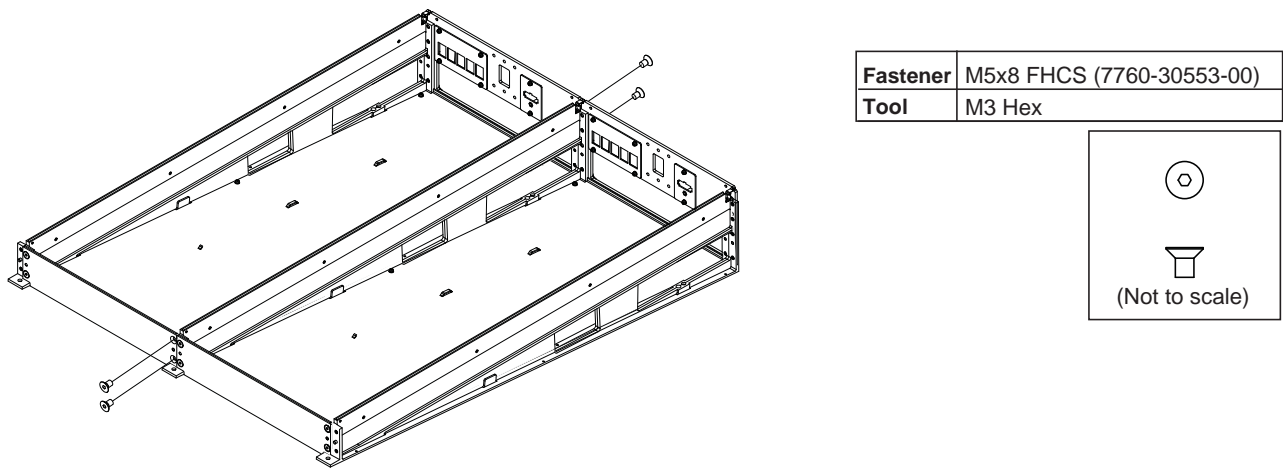

Figure 15. Removing the fasteners that secure the Side Wall of one chassis to the Back and Front Tie Plates of another
- 1 Remove the Hex fasteners that secure the Front and Back Tie Plates to the adjacent chassis Side Wall (see Figure 15).